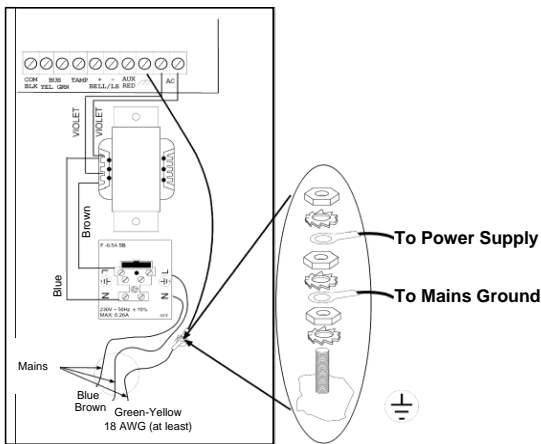

Figure 3: SMPS – AC & Ground Connection
4. Connect the incoming mains cable to the main fuse terminal block as shown in Figure 3.